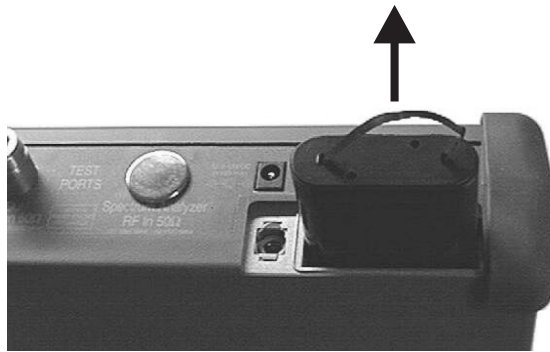

Figure 7. Removing the Battery
4. Grasp the battery lanyard and pull the battery straight up and out of the unit, as illustrated in Figure 7.